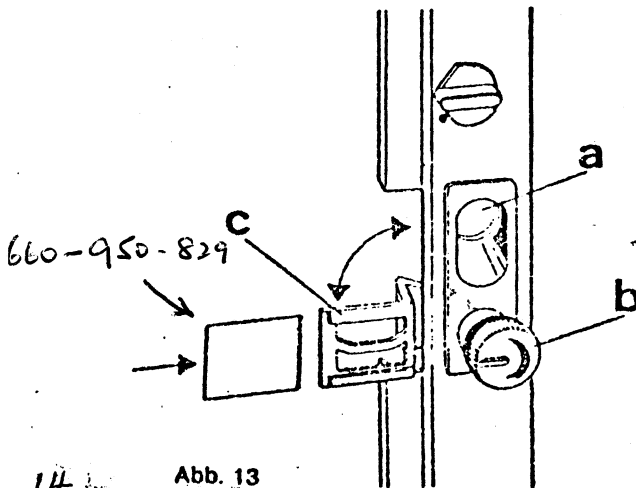

Abb. 13
2. After the grease filter frame has been removed, press the button „b” (Fig. 13) and turn it to the left.
3. Now insert the indicator paper in the paper holder „c” (Fig. 13)
4. Depress button „b” (Fig. 13) and turn it clockwise to its stop.
6. After the grease filter has been refitted, press the button „b” (Fig. 13) and turn it to the left so that the indicator paper is visible in the small window to see whether any discolouration (red) has taken place.
The efficiency of the cooker hood depends largely on the condition of the grease filter. Its absorption capacity is limited. As soon as the indicator paper in the window illustrated in Fig. 13/a shows a red colour, the grease filter is saturated and must be cleaned.
To establish whether any discolouring (red) has taken place, it is necessary to depress the button „b” (fig. 13) and turn it clockwise to its stop. If the indicator square „a” shows any red discolouring, then the grease filter must be cleaned and the indicator paper replaced. The indicator paper can be replaced after the grease filter has been removed – see operating instructions, section „Care and Maintenance”, items 1-4. Remove the discoloured indicator paper. **Thoroughly** clean the indicator square and paper holder before a new paper is inserted. The grease filter can now be refitted. **IMPORTANT:** In operating condition the indicator paper must be moved left behind the grease filter by depressing knob „b”.